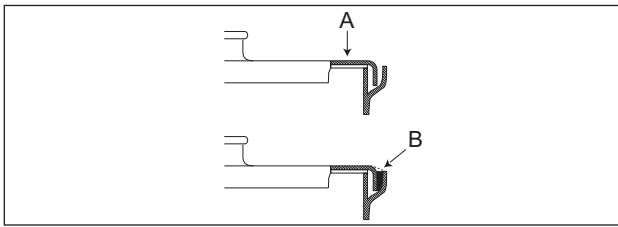

FIGURE 16-7
16.3.3.1. To seal the watertight top to the containment sump body, seat the top onto the containment sump body, making sure the top is centered in the channel. (See FIGURE 16-7, A.)
16.3.3.2. Fill the space between the top and the outside edge of the channel with sealant. (See FIGURE 16-7, B.)
16.3.3.3. Apply additional sealant around the top edge to form a filler. (See FIGURE 16-7, B.)
16.3.3.5. Work the sealant so there is a tight “seal” of sealant between the edge of the top and the outside edge of the channel. (See FIGURE 16-7, B.)